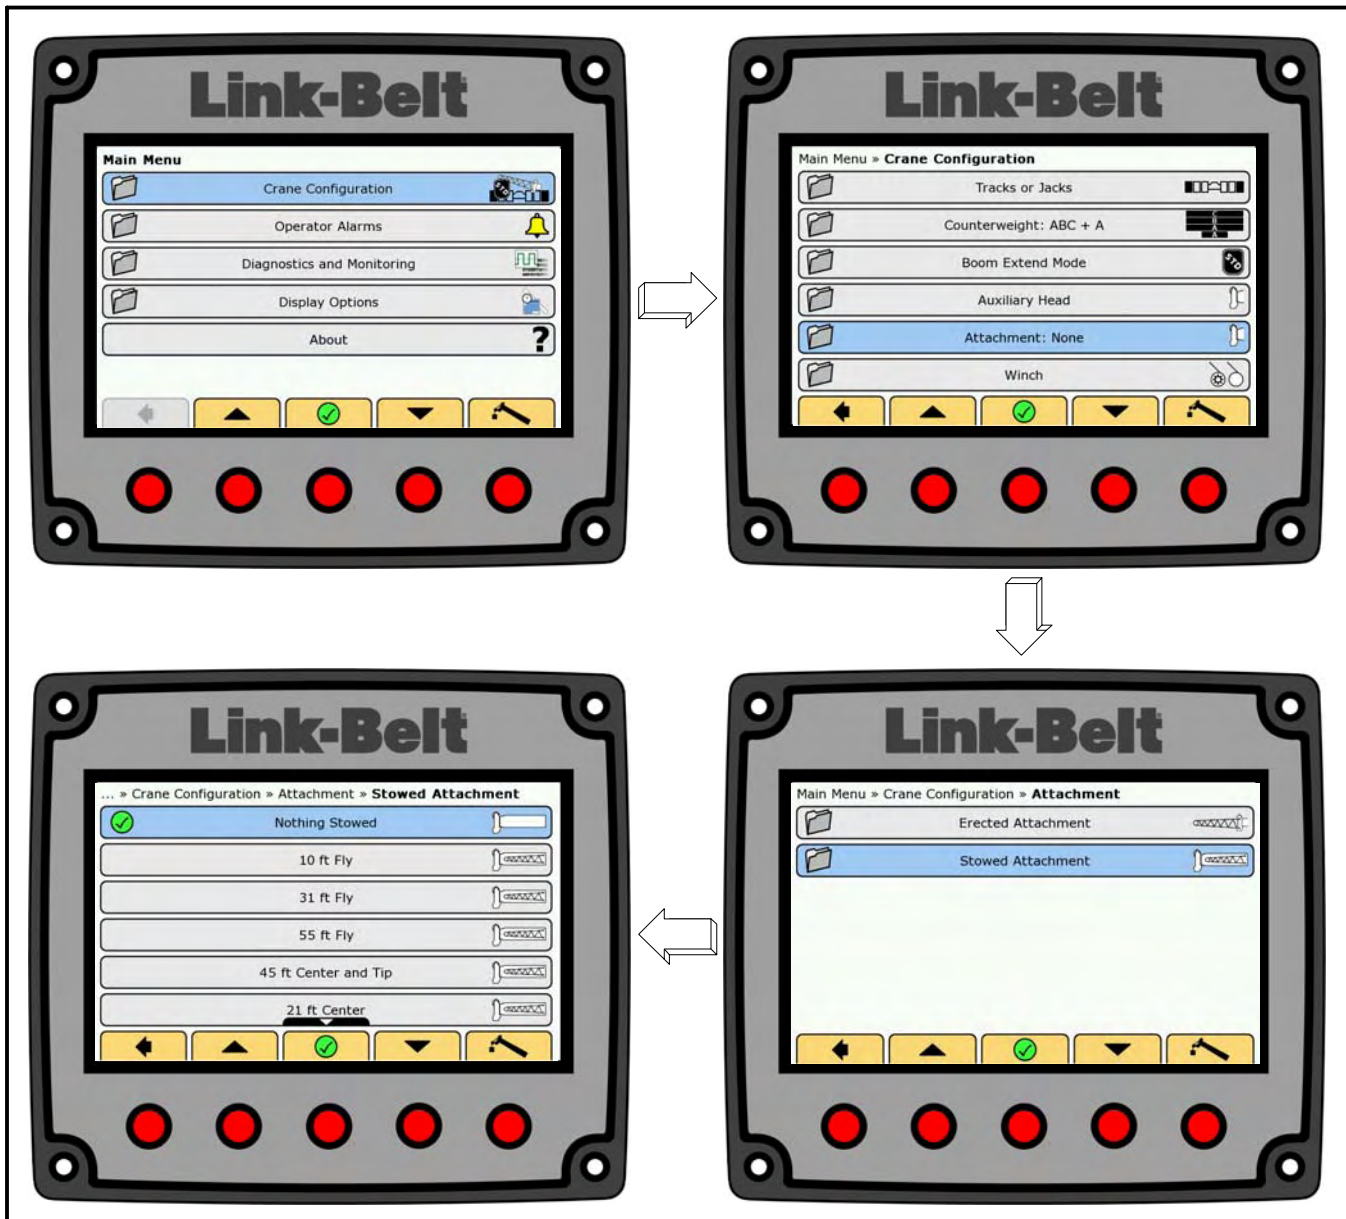

Figure 1-80
17. If the crane is equipped with a fly and was not selected as an erected attachment, on the Crane Configuration menu, navigate to Attachment » Stowed Attachment to display the stowed fly options. Scroll to the desired stowed deduct, if required, and press the OK/Enter button . Refer to Figure 1-80.